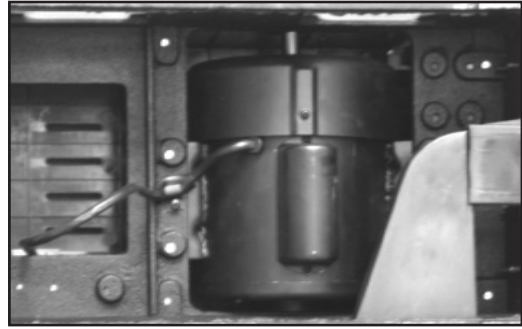

Fig. 20
2. Use compressed air to frequently blow out dust and debris from the sander and motor. (See Fig. 20)